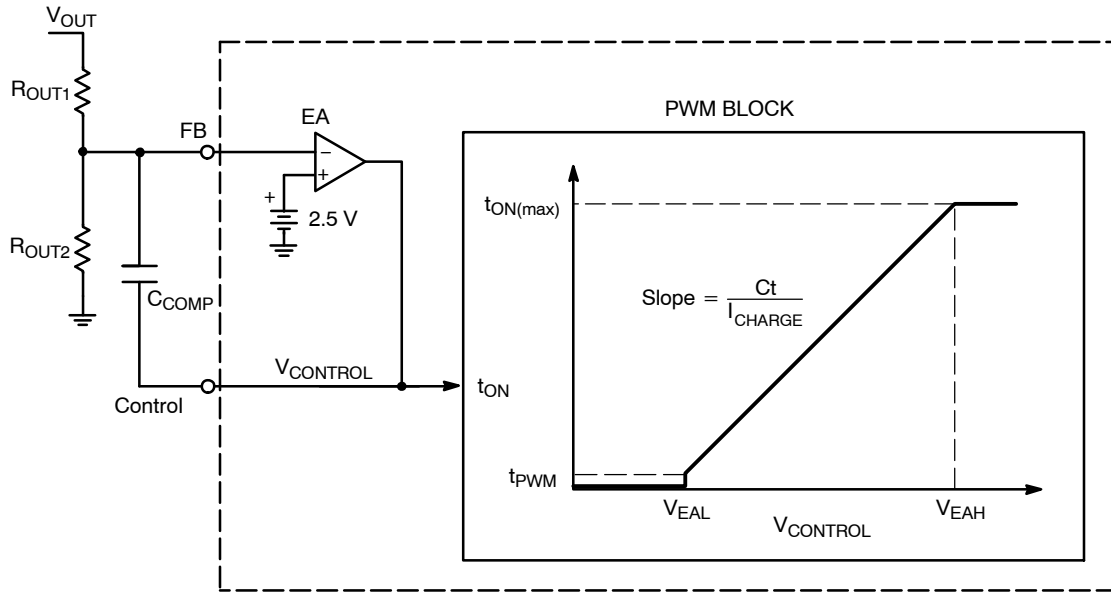

Figure 25. Error Amplifier and On Time Regulation Circuits
The NCP1606 is configured to regulate the boost output voltage based on its built in error amplifier (EA). The error amplifier’s negative terminal is pinned out to FB, the positive terminal is tied to a 2.5 V ± 1.6% reference, and the output is pinned out to Control (Figure 25).